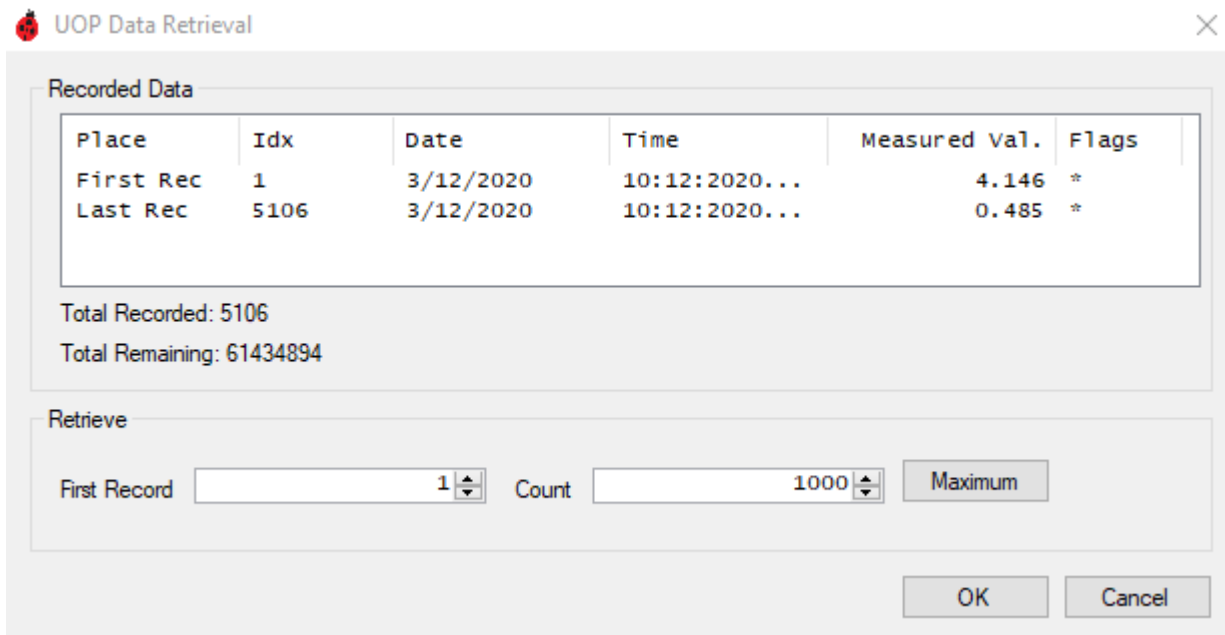

Figure 10 - UOP Data Retrieval
Memory is stored in records, each consisting of an index, date, time, Value in dBm, and a flags field. Figure 10 is an image of the Retrieval screen with 5,106 stored measurements. During the period that was used to make these measurements, the sensor was powered a total of 4 times making measurements each time. These times were:
To retrieve data from unattended measurement, refer to Figure 10 and take the following steps.
- Click the Manage UOP dropdown then click Retrieve Data and the image in Figure 10 will appear allowing the selection of data.